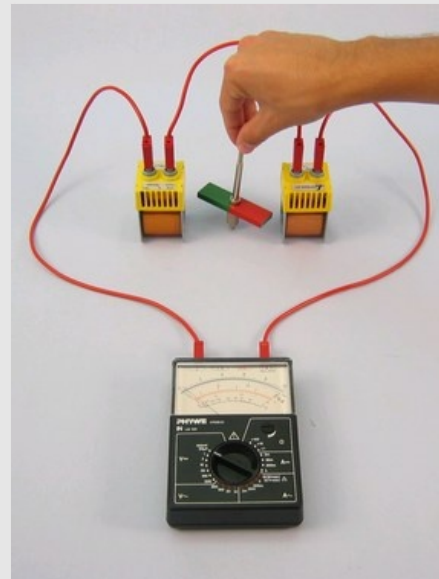

Fig. 2
- Place the magnet between the two coils so that the poles are about 1 cm away from the coils. Cf. fig. 2.